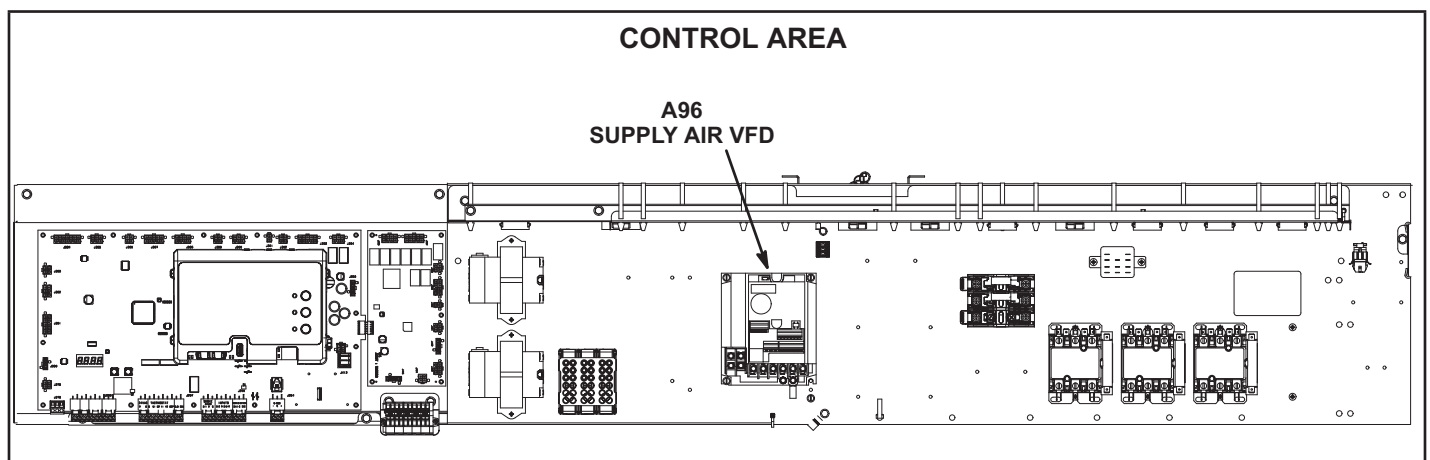

Figure 37
Units contain a supply air blower equipped with a variable frequency drive A96 (VFD) which varies supply air CFM. The supply air VFD (A96) is located in the control area. See figure 37.
- 4 - Locate the A55 Unit Controller. Refer to figure 37.